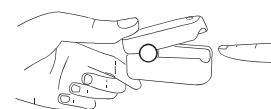

Figure 5
- After properly installing two AAA batteries, push down on the lid's press sign as shown in the Figure 5 and open the clip. Place the testee's finger between the rubber cushions of the clip. Make sure the finger is in the right position as shown in Figure 5, then release the clip.